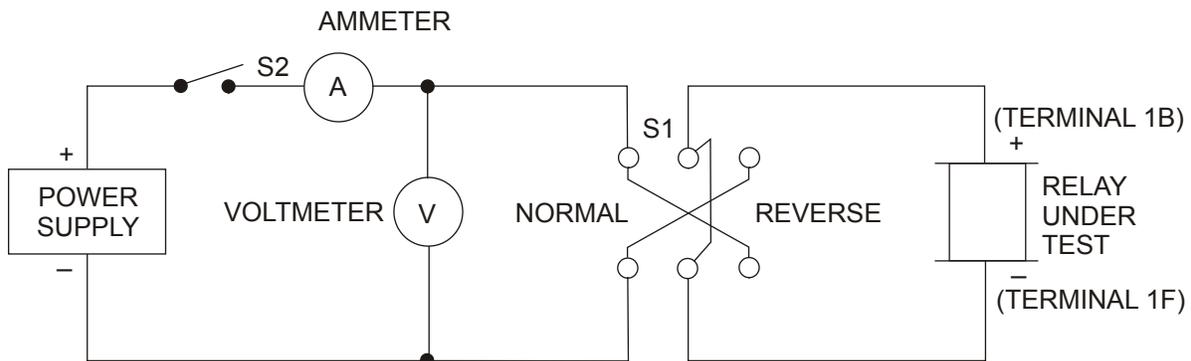

Figure 4-3. PN-250F Relay Test Circuit
1. Connect the circuit, as shown in Figure 4-3.